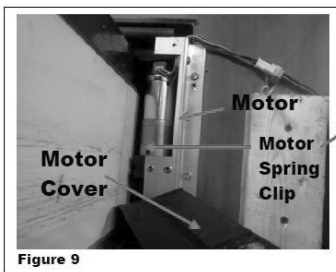

Figure 9
3. Pull down the bulb seal and remove the motor cover (Fig 9). The motor seal may stick to the bulb seal.